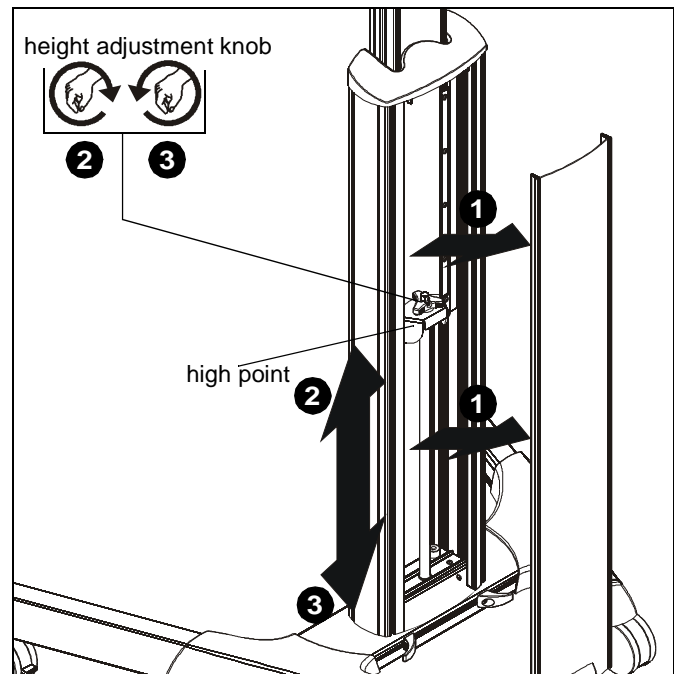

Figure 15
1. Remove cable cover (G) to expose height adjustment knob.
2. Turn height adjustment knob clockwise to raise display. (See Figure 15)
3. Turn height adjustment knob counterclockwise to lower display. (See Figure 15)
WARNING: Do not attempt to raise or lower the adjustment carriage beyond its upper or lower limit. High and low points are shown in Figures 15 and 16.